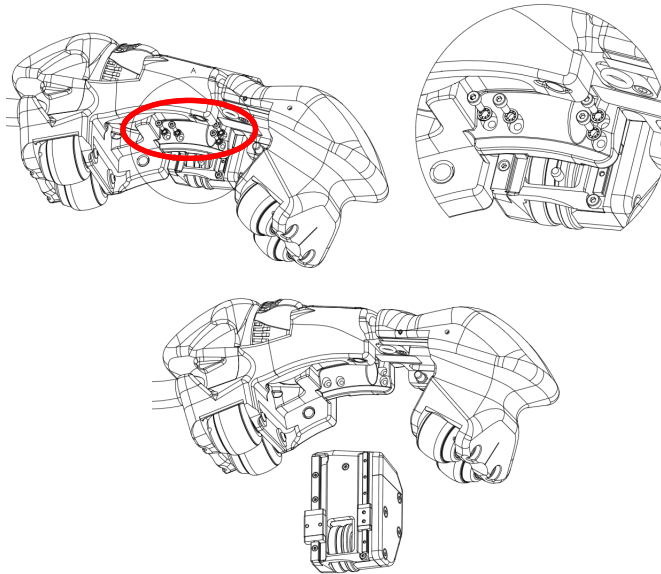

Figure 5-2 Changing the encoder
1. Use a 1.5 mm Allen key to remove the four screws on the encoder (see Figure 5-2 on page 48).